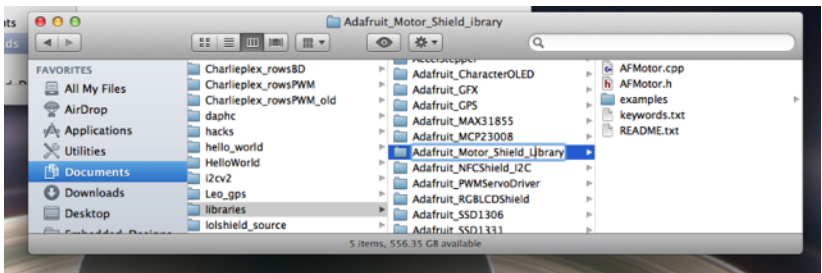

Figure 4-12. Rename the library if necessary
3. Give it a legal name. The library, if downloaded from GitHub, will have the word “master” appended to its name. Remove that from the name prior to use. Also, the IDE will not recognize folders with dashes in the name. You can replace these with underscores, as shown in Figure 4-12.